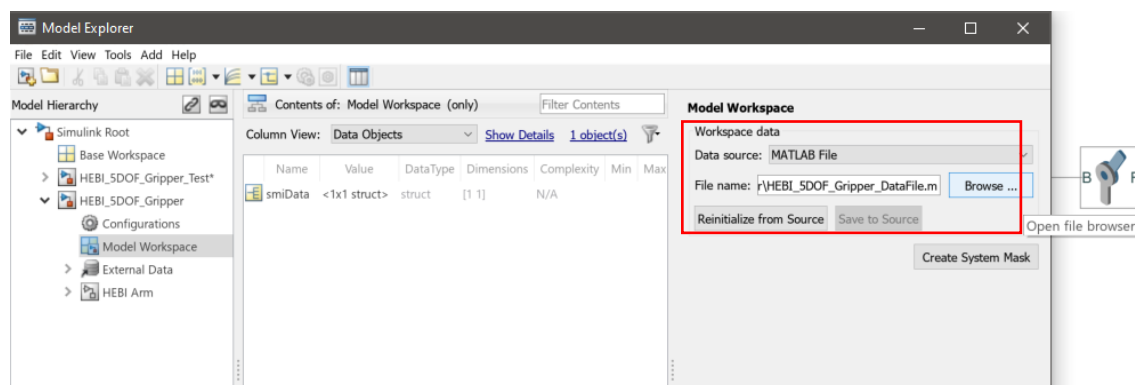

Figure 3: Model Workspace Data Reinitialization
4. Within the "Model Workspace" pane, browse for the "HEBI_5DOF_Gripper_DataFile.m" from within the "HEBI_5DOF_Gripper" folder you downloaded from canvas and then click on the "Reinitialize from Source" button, as shown in figure 3.